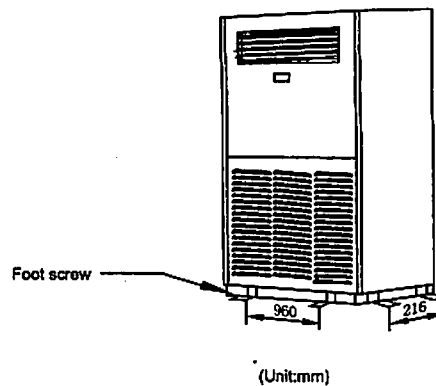

Fig.3-23
- See Fig.3-23 to fix the feet on the floor after select a proper place for installation, since the height of this unit casing is very high.